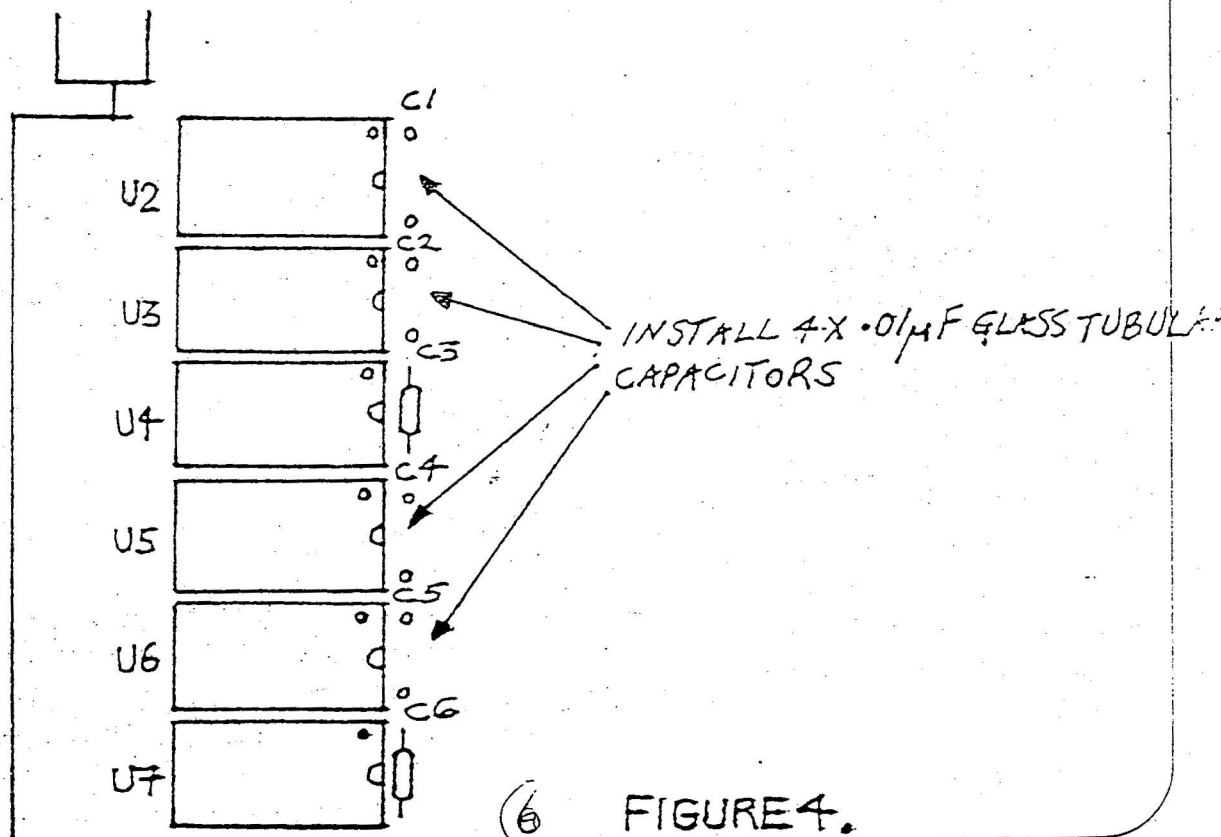

FIGURE 4.
1. Add de-coupling capacitors C1, C2, C4 and C5 (fig 4).